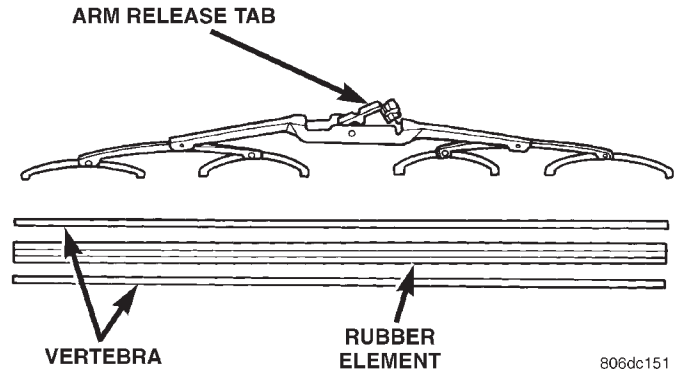
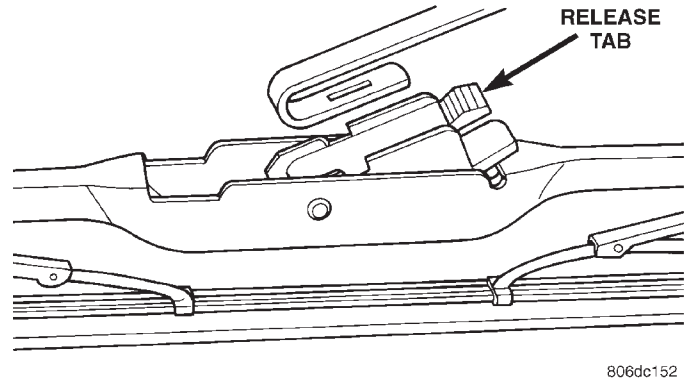

Fig. 12 Wiper Blade and Element
Fig. 13 Remove Blade from Arm
- (1) Turn wiper switch ON, position blades to a convenient place on the windshield by turning the ignition switch ON and OFF. Turn ignition switch OFF, when blade is in the desirable position.
- (2) Lift wiper arm to raise blade off glass.
- (3) Remove blade assembly from arm by pushing release tab under arm tip and slide blade away from arm tip (Fig. 12) and (Fig. 13).
- (1) Lift wiper arm to raise blade off the windshield.
- (2) Remove blade assembly from arm by pushing release tab under arm tip and slide blade away from arm tip (Fig. 12) and (Fig. 13). Gently place wiper arm tip on windshield.